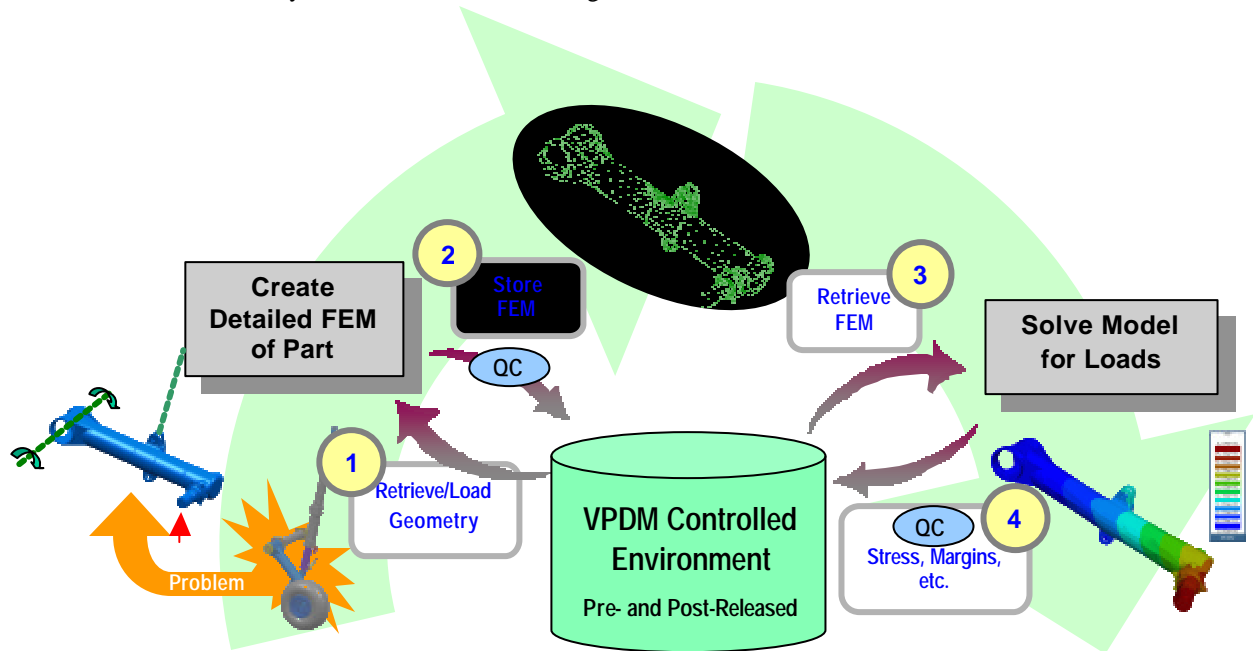

Figure 2. Integrated analysis process flow.
The AES developed Integrated Analysis Architecture utilizes a simple process flow that governs most actions done within the data managed environment. The analysts first retrieves or loads the CAD geometry from the system (fig. 2). The 3D part or assembly models are then simplified if necessary. Meshing and other pre-processing tasks are then done directly on the 3D geometry to avoid unnecessary remodeling and to assure that the geometry meshed is as close to the actual design geometry as possible. Pre-processing is best done within a highly integrated CAD/CAE environment that either directly reads the CAD models or uses integrated pre-processing functions within the native CAx system. Once preprocessed the analysis model is stored within the VPDM system. Upon storage a number of quality control (QC) algorithms are run against the data that check for adherence to best-practices and company standards. Upon approval, the analysis model can be retrieved from the VPDM system and solved using the department’s preferred solver. Solver results and analysis reports are then stored in their appropriate contextual location within the VPDM system. This contextual storage mechanism is described next.